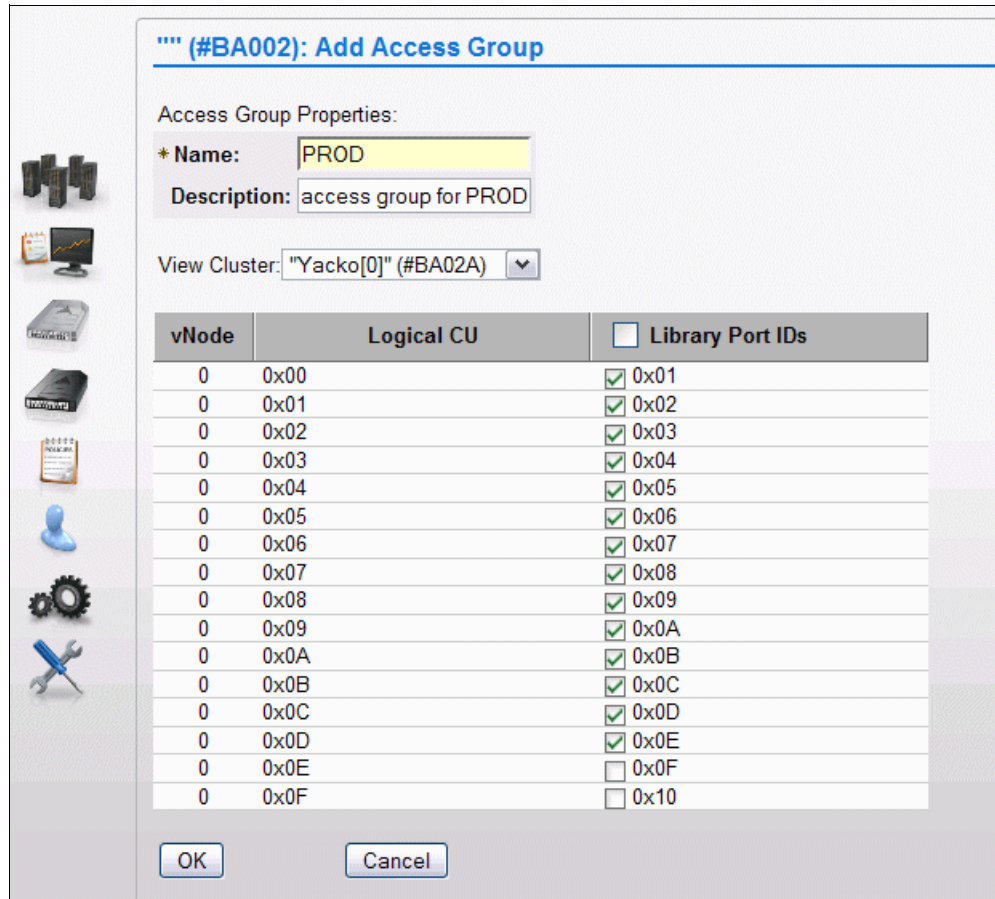

Figure I-12 Add an access group for PROD LPAR
- PROD is connected to both clusters as well, but by using the opposite Lib Ports, 01-0E on Cluster 0, as shown in Figure I-12.